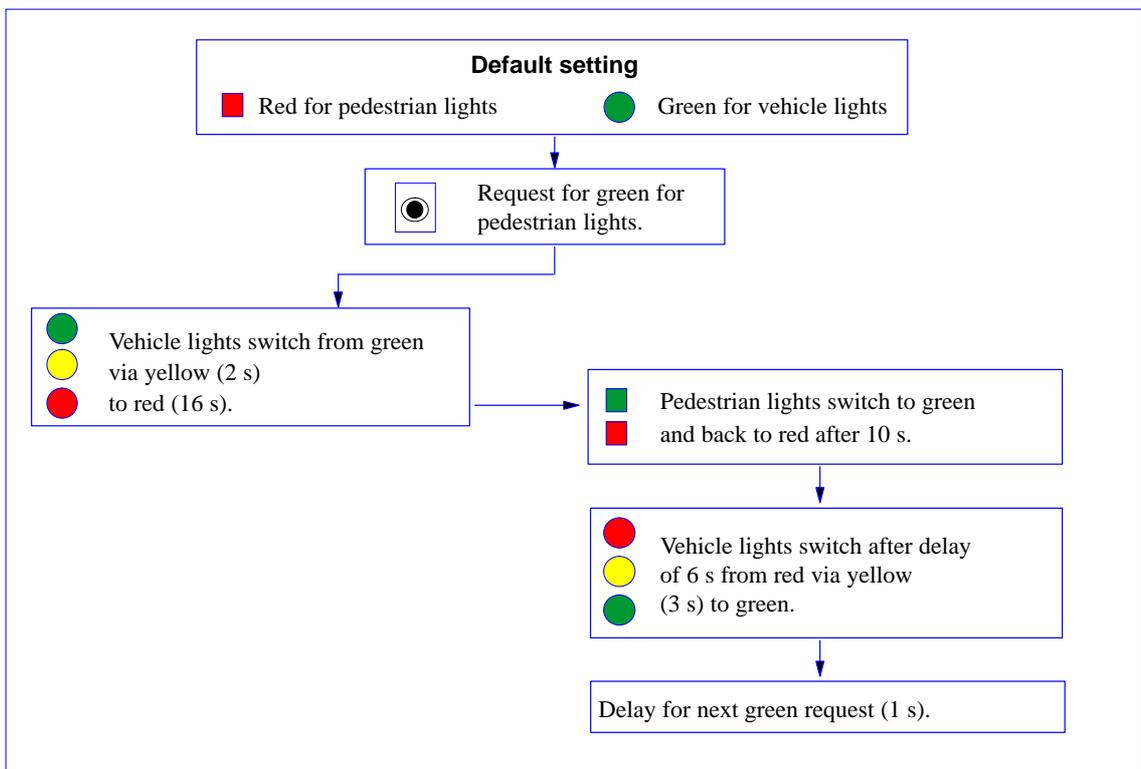

Figure 2-3 Schematic Overview of the Traffic Light Control Sequence
- If the program receives a request to change the pedestrian light to green as a result of the pushbutton being pressed, the traffic light changes from green to red via yellow, as shown in Figure 2-3.
Figure 2-3 gives you a schematic overview of how the TLIGHT sample program should work: